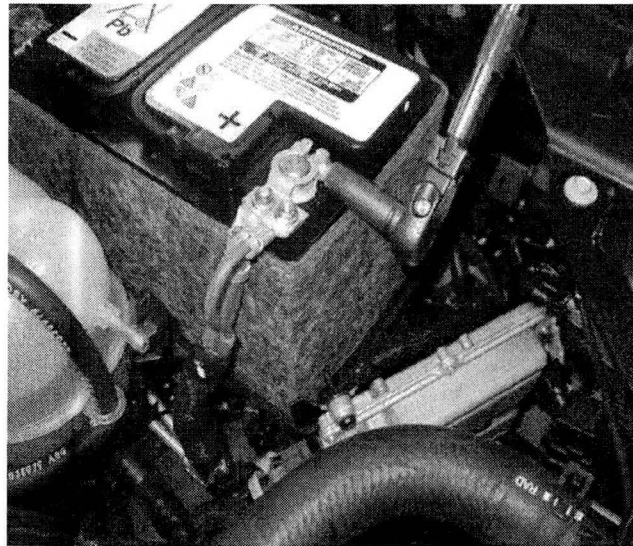

Fig. 4 Battery Cables
3. Remove positive and negative battery cables (Fig. 4).